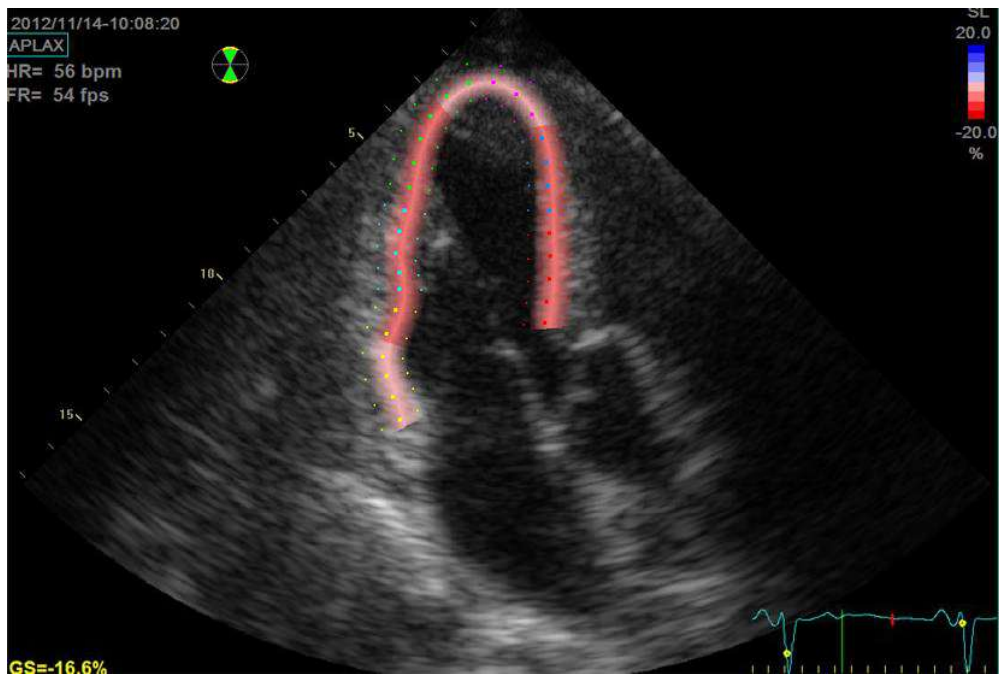

Figure 13-170. Parametric systolic strain APLAX view
- Single screen (see Figure 13-170 on page 13-313) displaying a 2D image with strain parametric data.